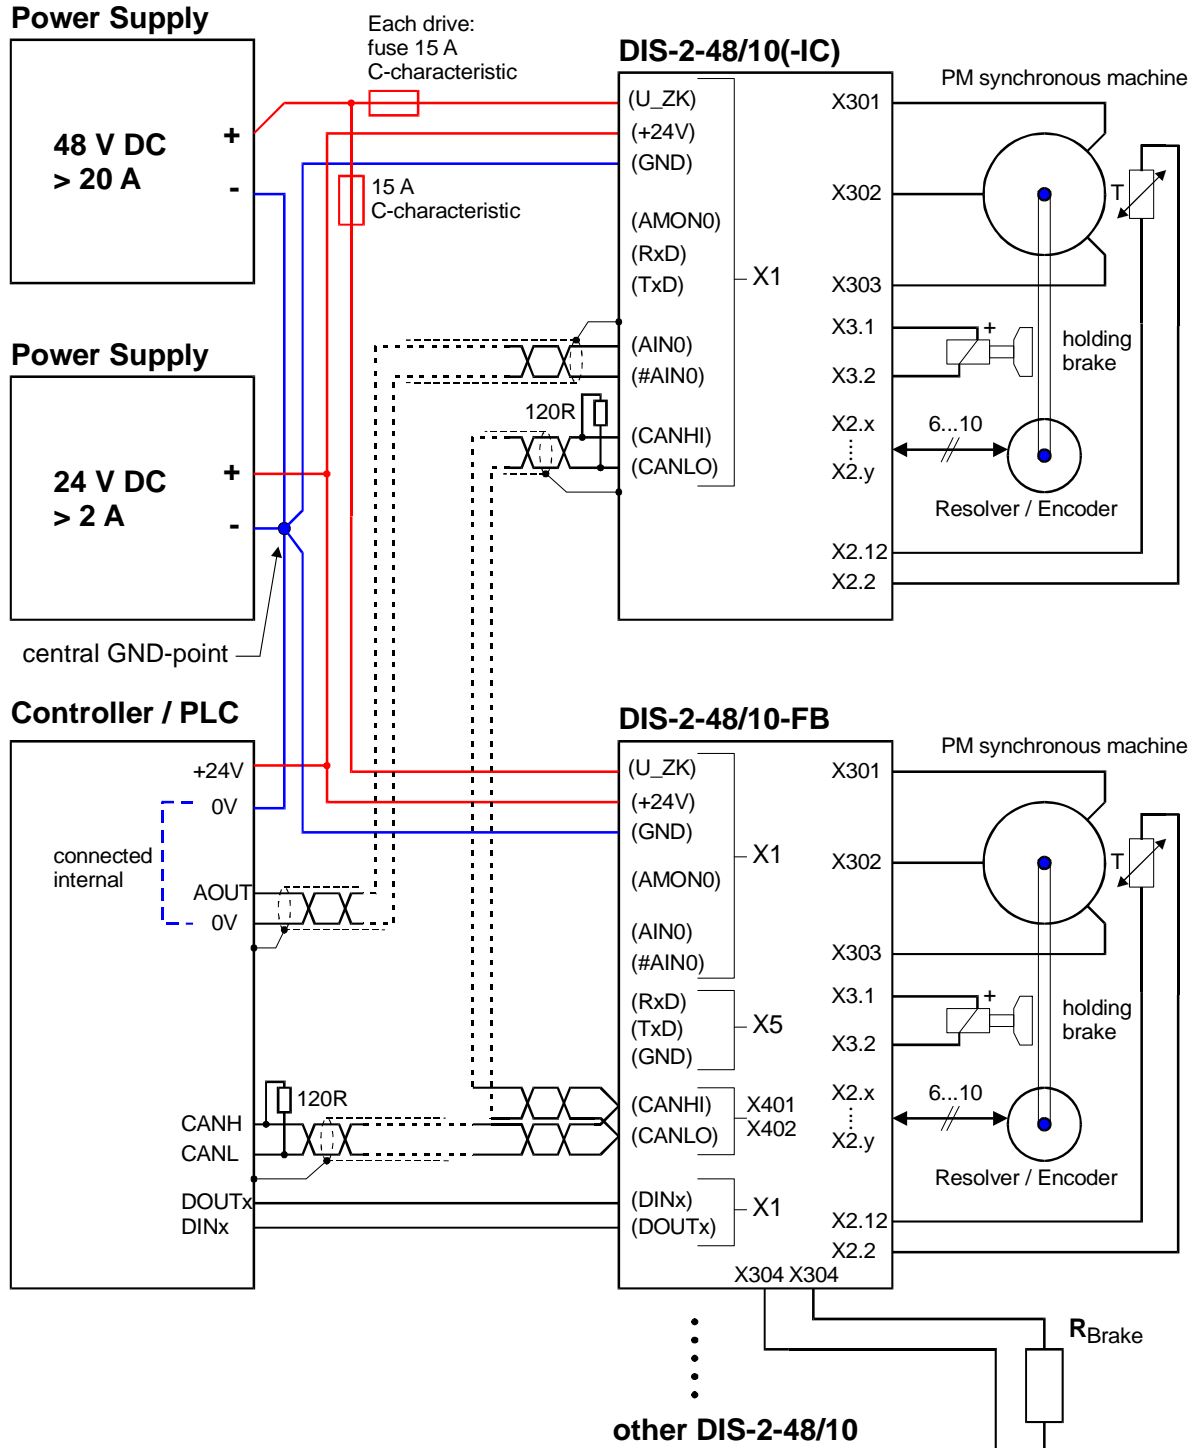

Figure 7: Connection to power supply, PLC [X1] and motor [X2], [X3], [X301] – [X303]
The wiring of the CAN bus signals should be done in the same way as the wiring for the analogue inputs. At both ends of the CAN bus network a termination resistor of 120 Ω / 1% is needed. Because the CAN bus requires a in-line topology of all nodes, it is necessary to connect two wires of the cable to one pin of the connector X1 (as shown in the lower DIS-2 in **Figure 7**).
- ❖ To connect multiple DIS-2 to one power supply use a star wiring technique as shown in **Figure 7**. The star point of the reference GND potential should be located as close to the power supply as possible.